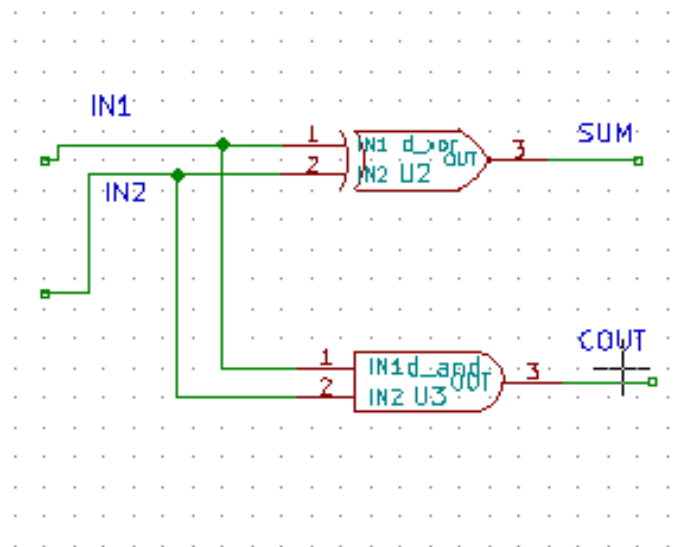

Figure 8.3: Inner circuit of the subcircuit
- After clicking OK button it will open KiCad schematic. Draw your circuit which will be later used as a subcircuit. e.g the Fig. 8.3 shows the half adder circuit.